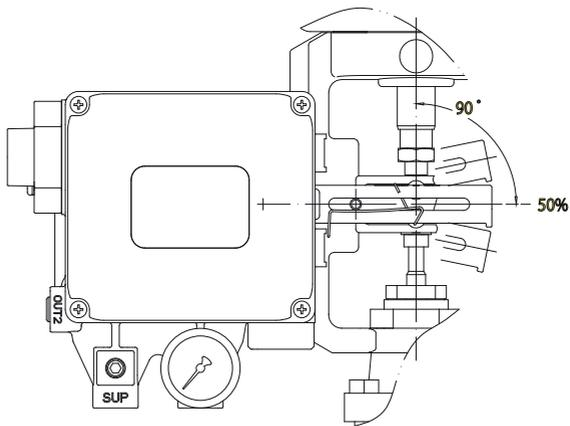

Fig. 9 Feedback lever and valve stem
4. Connect air supply to actuator to position valve to mid travel, see Fig. 9
4. Connect air supply to actuator to position valve to mid travel, see Fig. 9.